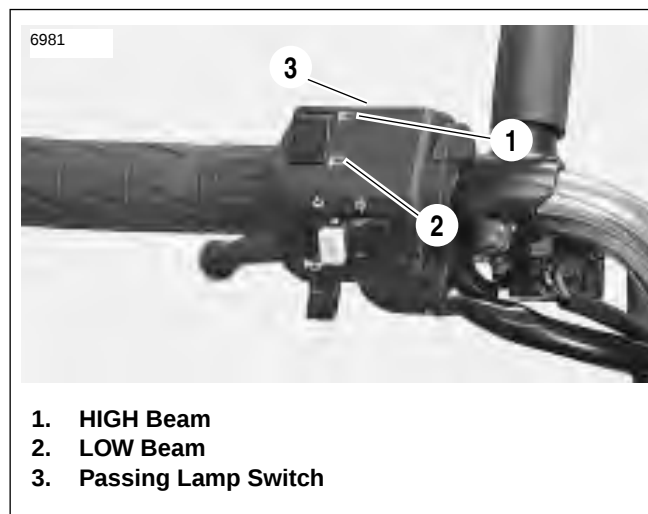

Figure 7-39. Passing Lamp Switch
- b. See Figure 7-39. Check headlamp LOW (2) and HIGH beam (1) settings.
- c. Set headlamp to LOW beam (2). Press passing lamp switch (3). Headlamp should flash HIGH beam for as long as the switch is pressed.